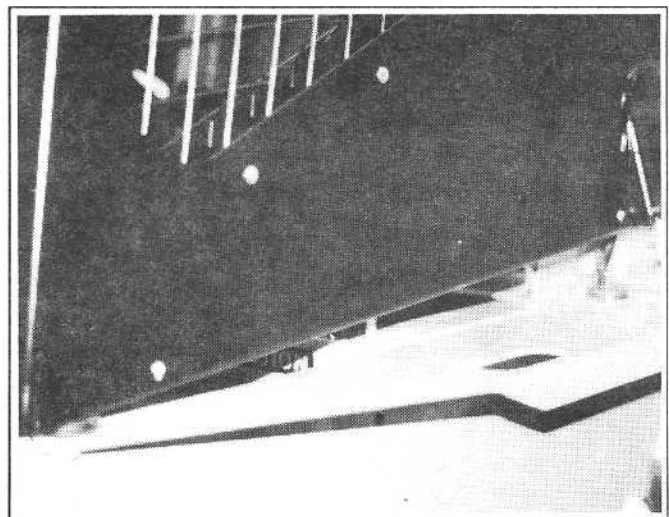

Figure 1-2
2. Align and install the front two (2) bolts and pass the wiring harness plug through the hole in the frame prior to allowing rear of ROPS to rest on the rubber mounts. (See figure 1-2)